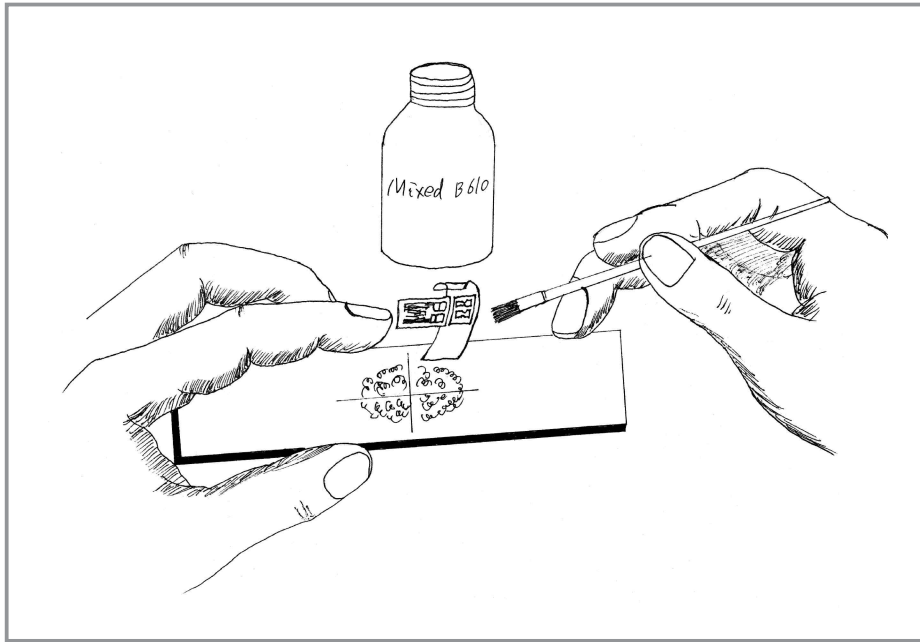

Fig. 9
**3-3** Coat the bonding area of the sensor body with the B610 adhesive from BCM SENSOR by means of a BDB camel's hair brush, as shown in Fig. 9, and wait a few minutes for the B610 to dry and form a thin layer of the adhesive. In order to have the adhesive layer of a desired thickness, one can refer to Section 3.1. and 3.2..
**3-4** Coat the B610 on the bonding side of both the encapsulated SG and the terminals, as shown in Fig. 9. In case one uses the open-face SG or semiconductor SG, one can also coat the B610 on the side of the sensing grid of the open-face SG or the upper side of the semiconductor SG. In this way the B610 can form a thin layer of adhesive to protect the open-face SG or semiconductor SG during the adhesive curing process.